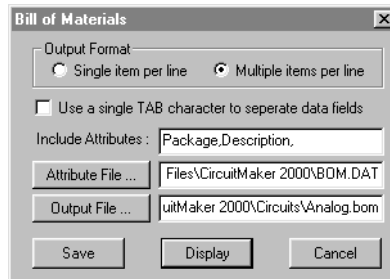

Figure 7.1. You can save, display, or print a Bill of Materials in one of two formats.
- 1 Choose **File > Bill of Materials** to display the dialog box pictured in Figure 7.1.